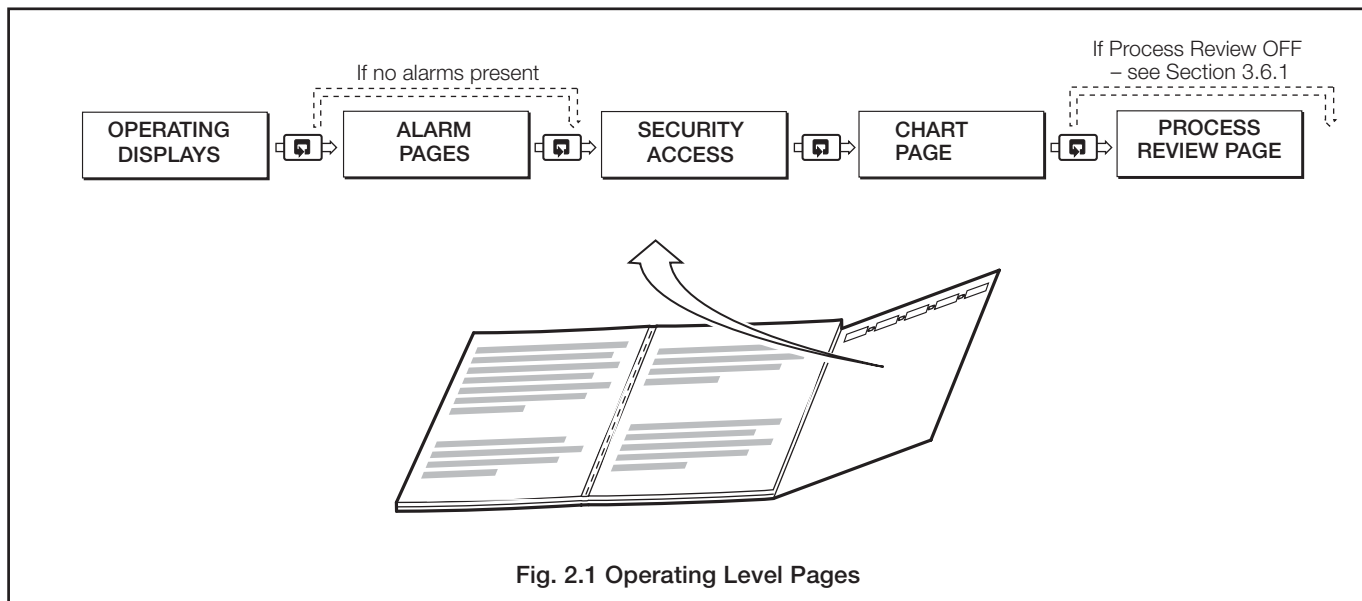

Fig. 2.1 Operating Level Pages
2.1 Introduction – Figs. 2.1 to 2.3
2.1.1 Operator Level Pages – Fig. 2.1